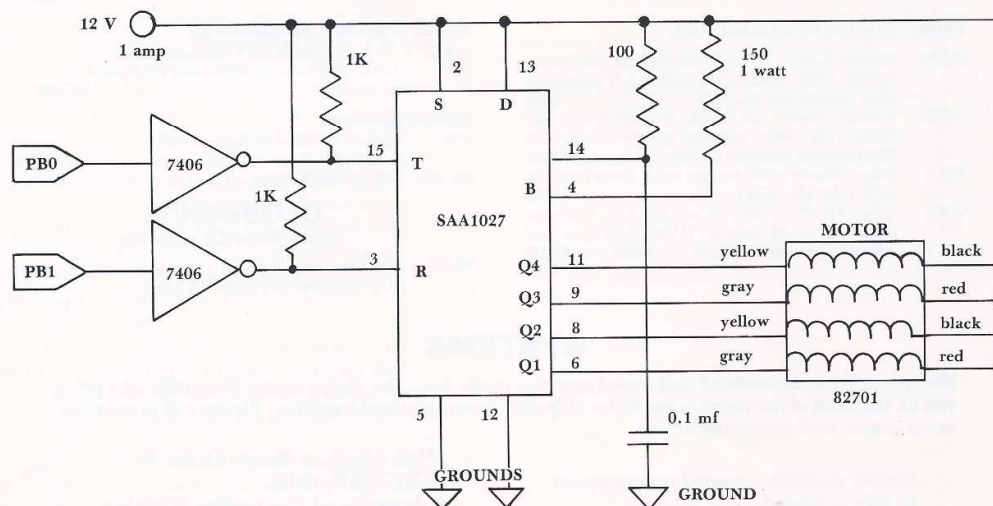

Figure 1. Stepper motor interface. The SAA1027 is a special driver integrated circuit. The 7406 will also require five volts for its own power.
The circuit shown in Figure 1 and the programs given in Listing 1 allow you to drive a stepper motor with your 6502 based microcomputer. Why run a stepper motor? Perhaps to drive a solar panel to follow the sun, homebrew your own x-y plotter, run a pump at a preselected rate, or turn your robot's head. Whatever your application may be, here is some information to get you started working with stepper motors. You will want to get additional information from the following companies:
The circuit of Figure 1 consists of a 7406 inverter with high voltage open-collector outputs. Two pins of the Port B application port on the computer drive the 7406 which in turn controls the trigger (T) input and the rotation direction (R) input on the stepper motor IC driver. The driver chip controls the stepper motor.